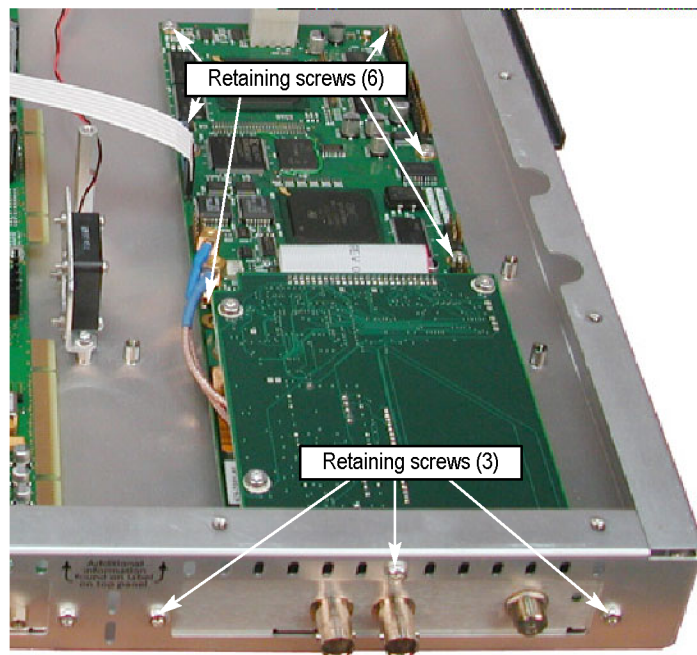

Figure 37: Retaining screw locations for QAM (Annex A), QAM (Annex B1), QAM (Annex C), and QPSK (L-Band, old version) interface cards
- a. For QAM (Annex A), QAM (Annex B1), QAM (Annex C), and QPSK (L-Band, old version) interface cards, remove the four retaining screws from the card and remove the three retaining screws from the rear panel. (See Figure 37.)
in the card and install the three retaining screws in the rear panel. (See Figure 37.)